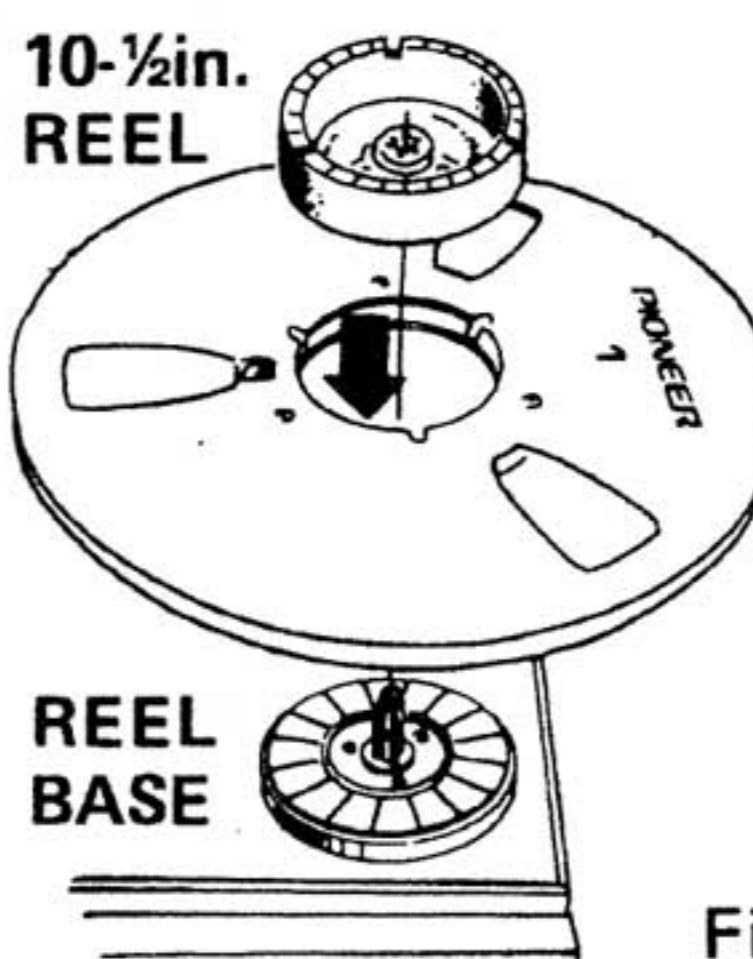
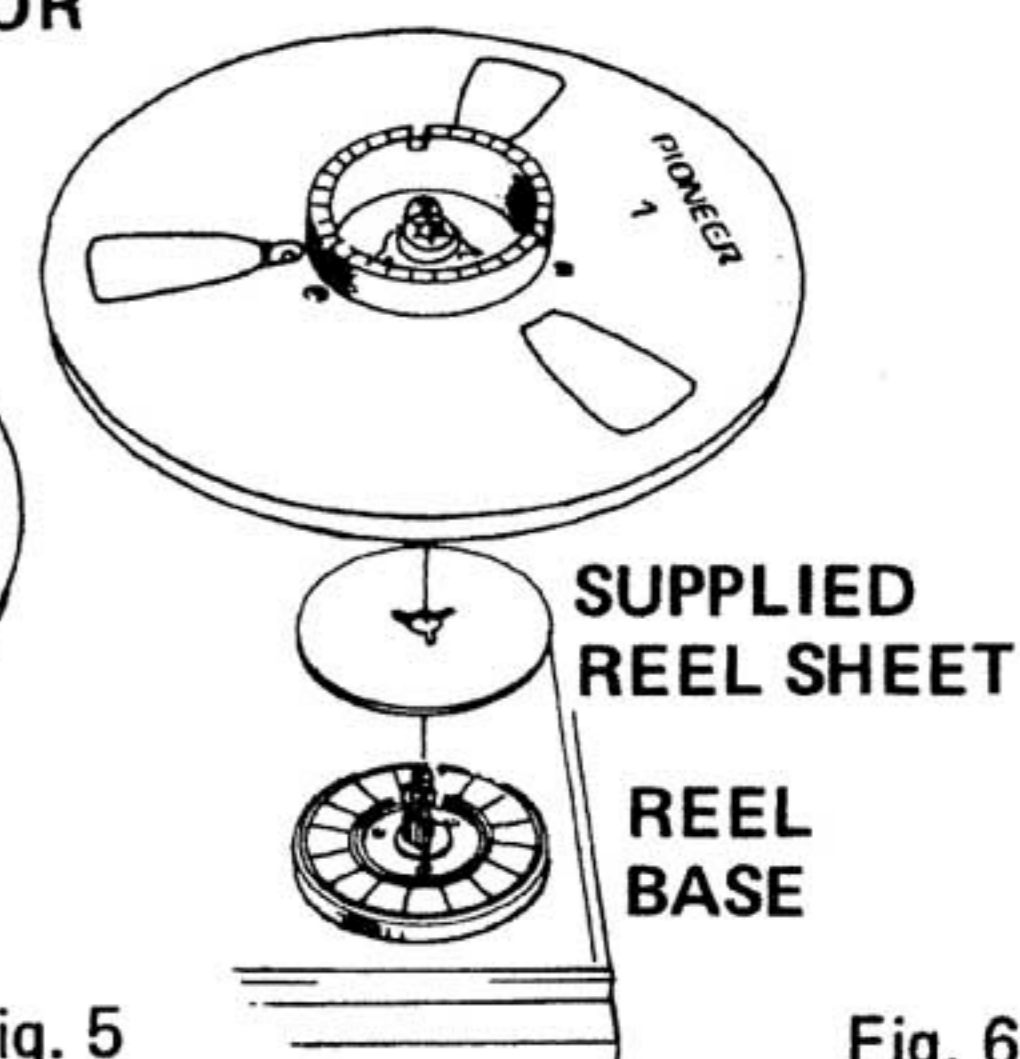

Fig. 5
Fig. 6
1. Set loaded reel on the left reel base and empty take-up reel on the right base. If NAB type 10-1/2in reels are used (large center holes), employ reel adaptors as shown in Fig. 5. If reel thicknesses differ, place the supplied reel sheet between the reel adaptor and reel base of the thinner reel (Fig. 6).